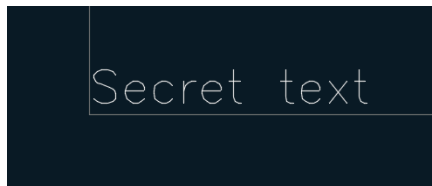

FIGURE 2.4 Secret text in the lower-left corner of the refrigerator
8. Roll the mouse wheel forward to zoom in further, and drag the mouse wheel if necessary to reveal the object in the lower-left corner of the refrigerator (see Figure 2.4).